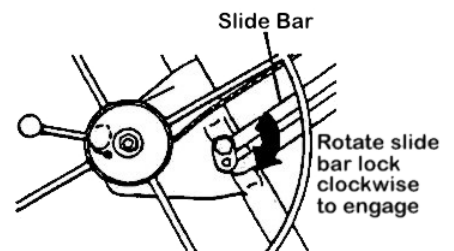

Figure 5
5. Press the winch assembly slightly back toward the frame. This automatically engages the slide bar lock to keep the winch fully extended. (Figure 5)